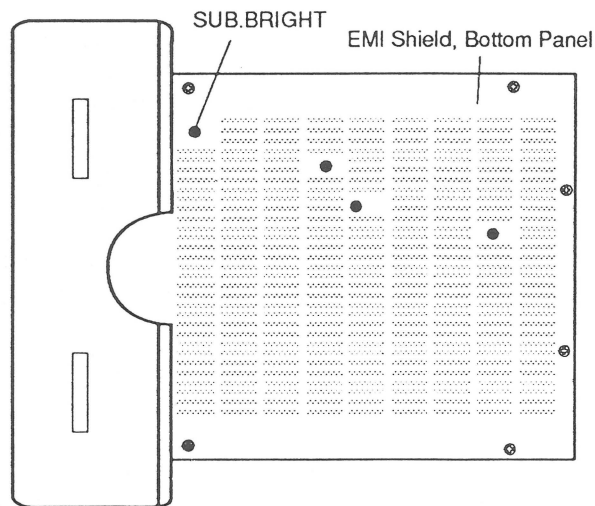

FIGURE 12
8. Using the insulated plastic screwdriver, turn the SUB.BRIGHT control (**Figure 12**) until the first bar (on bottom) is completely black, and the second bar is barely visible. The first bar should match the black border that extends 1/8 inch around the screen.